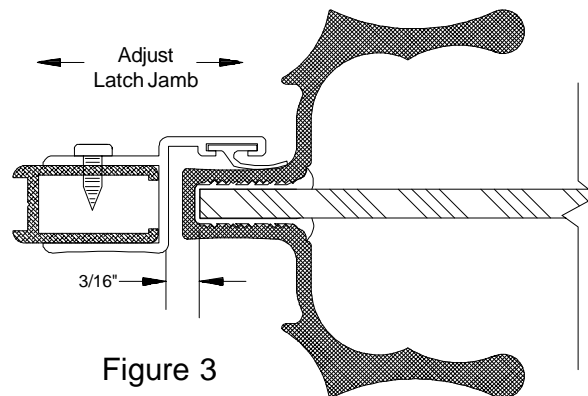

Figure 3
7. Replace wall channel and secure remaining two holes in wall channel using two #8 x 1 1/2" screws (17).
8. Replace latch jamb over wall channel. Close door and adjust latch jamb 3/16" from edge of glass (See Figure 3). Through the holes provided in the latch jamb, drill three #31 holes in wall channel. Secure latch jamb to wall channel with #6 x 3/8" SMS screws (21).
9. Set catch (22) in place on latch jamb (18) and secure with 6-32 x 3/16" screws (23).
10. Adjust drip trough (7), up at latch side of door and down at hinge side of door so water will drain into shower when door is opened. Adjust splash vinyl (6) to within 1/8" of curb.